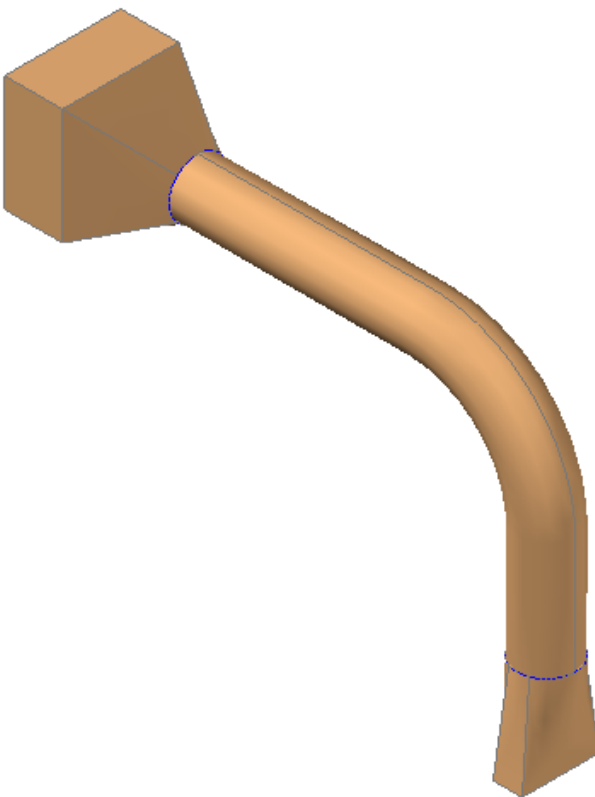

Figure Step 27
Step 27 Using the UNION command, union all solids to form a single solid. (Figure Step 27)